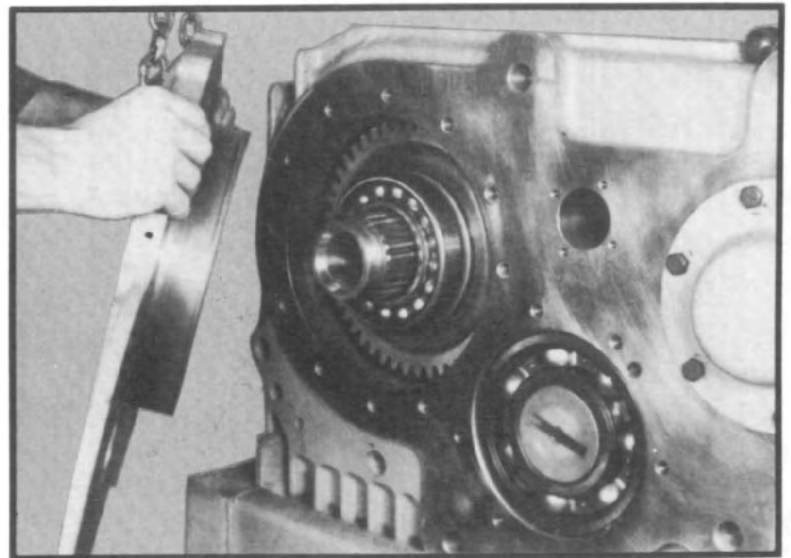

Fig. 70
3.17 Remove fifteen capscrews from rear face plate and remove face plate from housing. It is recommended that two bolts or eyebolts be attached to the face plate and a chain hoist be attached to the bolts or eye bolts with a chain. (See fig. 79.) The face plate can then be worked out of transfer case housing, supported by the chain hoist. (See fig. 70.) Note: As the face plate is being worked out of the transfer case tap the rear of the lower shaft with a soft hammer to remove rear bearing from the face plate.